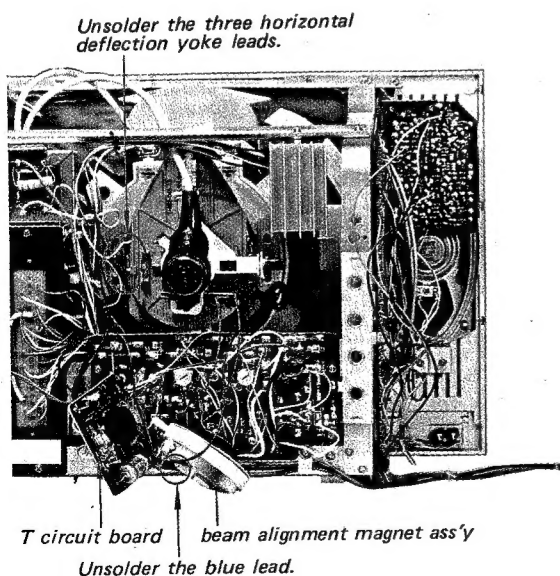

Fig. 2-19.
7. Remove the beam alignment magnet assembly from the picture tube neck, and unsolder the blue lead as shown in Fig. 2-19.
9. Unsolder the three horizontal deflection yoke leads (red, green and yellow) as shown in Fig. 2-19.